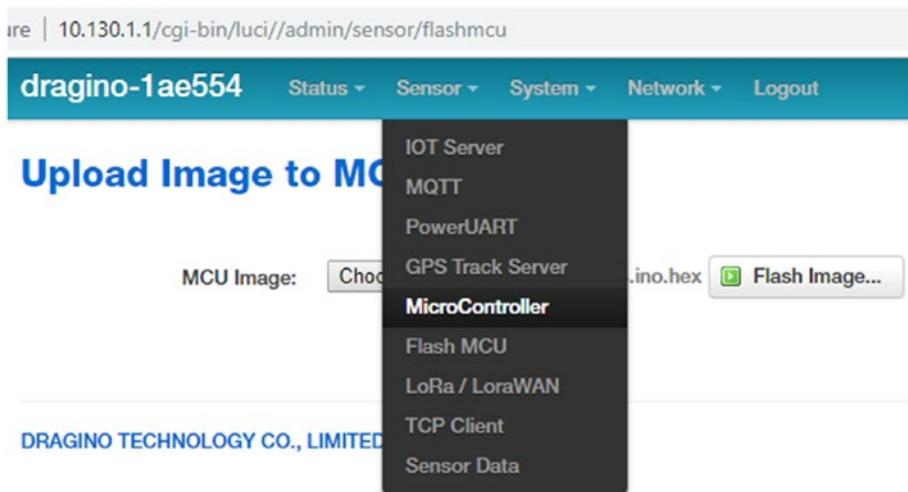

Figure 8-5. Menu command for accessing microcontroller settings
5. After rebooting the LG01 gateway, in the configuration interface, select Sensor ➤ Microcontroller to verify the flashed hex file (Figure 8-5).